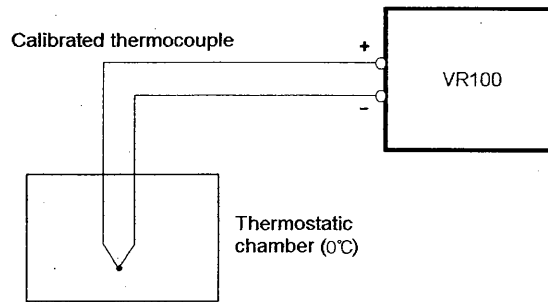

Figure 2.2 Connection diagram
- 1 Connect the instruments as shown in Figure 2.2.